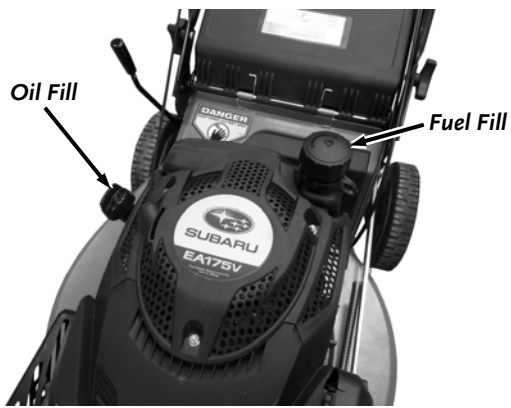

Figure 7
1. Place the machine on a level surface remove the Dipstick (**Figure 7**).
6. Remove the Gas Fill Cap and fill the Gas Tank with fresh, unleaded gas (with a minimum of 85 Octane) to approximately 1" to 1-1/2" below the top of the fill neck to allow for fuel expansion (**Figure 7**). Be careful not to overfill and reinstall the Gas Fill Cap before starting the engine. See your Engine Owner's Manual for more detailed information.